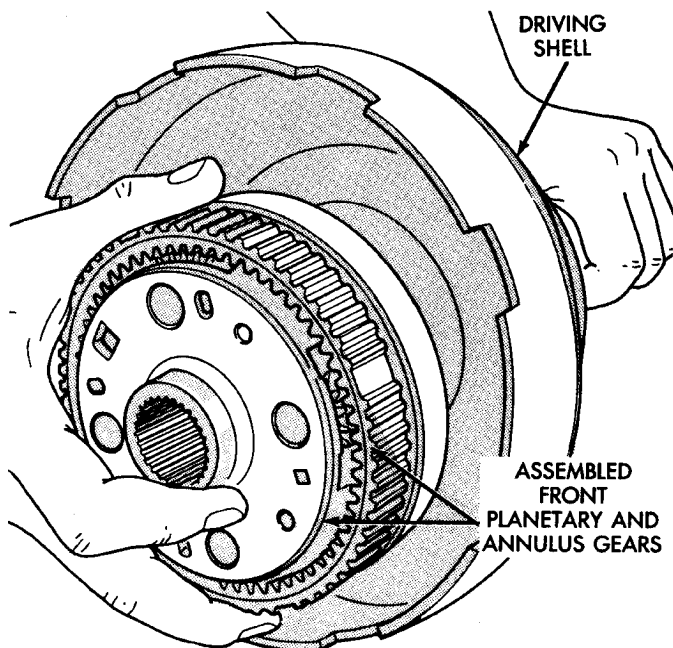

Fig. 190 Installing Front Planetary And Annulus Gear Assembly
(12) Install front planetary and annulus gear assembly (Fig. 190). Hold gears together and slide them onto shaft. Be sure planetary pinions are seated on sun gear and that planetary carrier is seated on intermediate shaft.
(13) Place geartrain in upright position. Rotate gears to be sure all components are seated and prop-